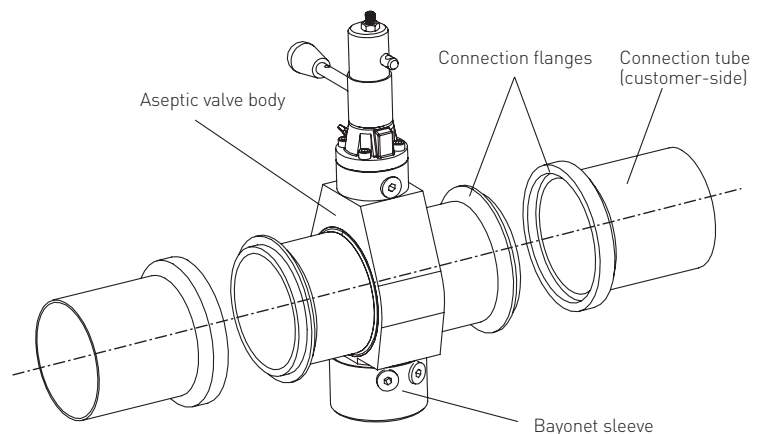

FIG. 8
6.2.1 Installation step by step (see fig. 8)